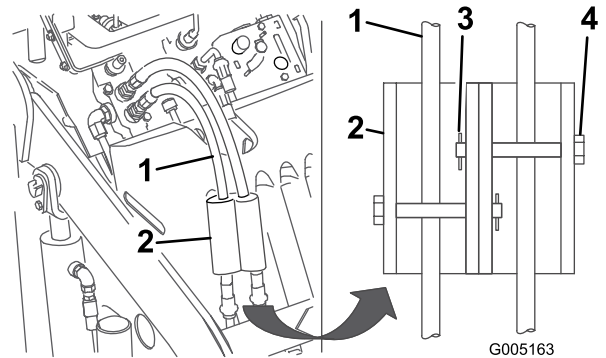

Figure 18
7. Install the cylinder locks over the hydraulic hoses and secure them with the clevis pins and cotter pins (Figure 18).